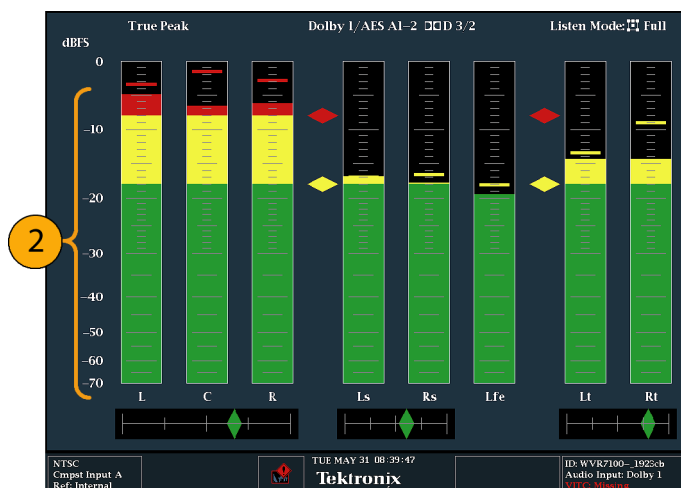

Figure 66: Audio levels
2. Check the level meter bars for current audio levels, which are displayed according to the selected meter ballistics. Each bar displays three colors. (See Figure 66.)